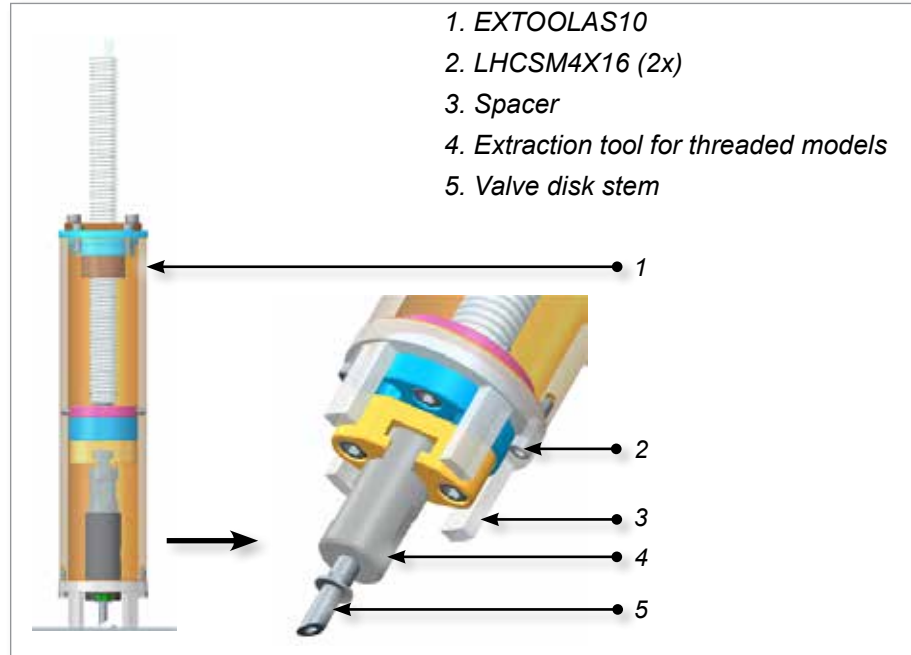

Figure 10-4 For valve disks with threads
- a) Thread the valve disk extraction tool onto the valve disk stem. See Figure 10-4.